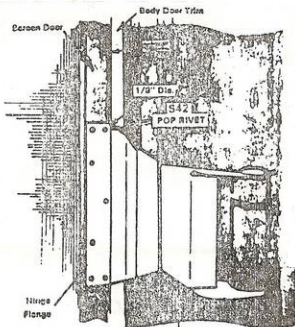

Figure 10
- 11 Place screen door into frame ~~with the hinge~~ at top and hinge side of screen door against swinging hinges against screen door. Bend hinge to fit before drilling for rivets. Hinge flange must fit screen door without any force or strain. (See Figure 10). With hinges flush against screen door, drill only 2 holes 1/8 inch diameter in screen door. Pop rivet hinge with S42 rivets. Open and close screen door to check for clearance. Drill remainder of holes and pop rivet.